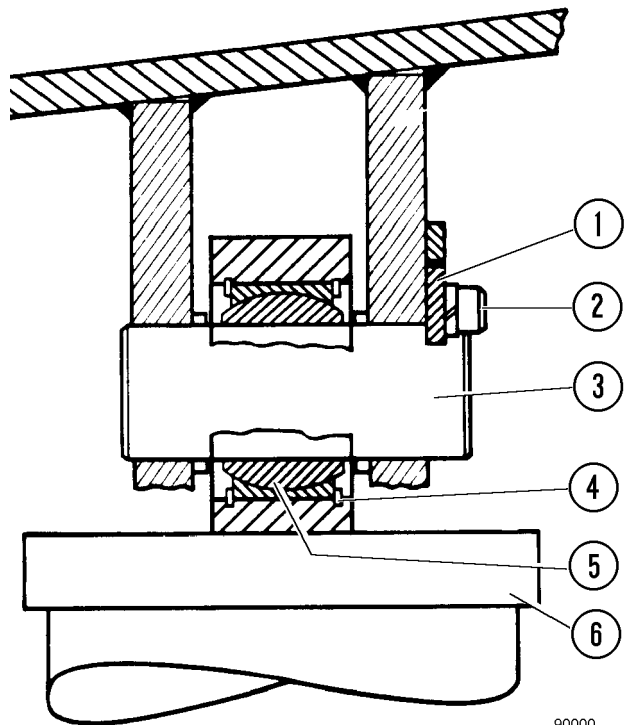

FIGURE 3-2. HOIST CYLINDER MOUNT (UPPER)
4. Remove pin retainer capscrews and washers (2, Figure 3-2) and remove retainers (1) from each of the upper hoist cylinder mounting eyes. With adequate means of supporting the hoist cylinders (6) in place, remove each of the mounting pins (3).